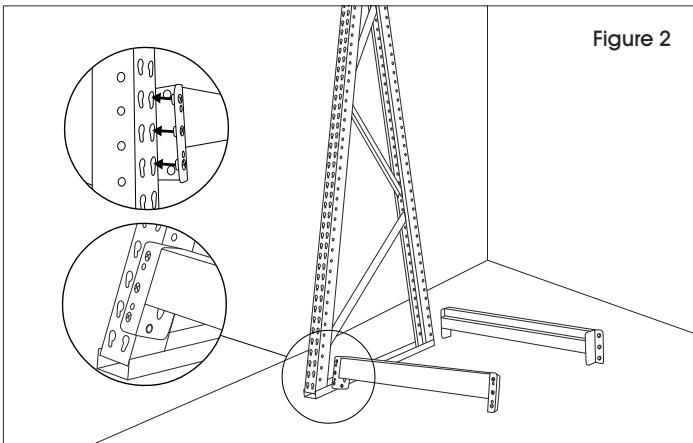

Figure 2
2. Attach the bottom two support beams by hooking and locking them into the holes of the upright at the desired level. (See Figure 2)